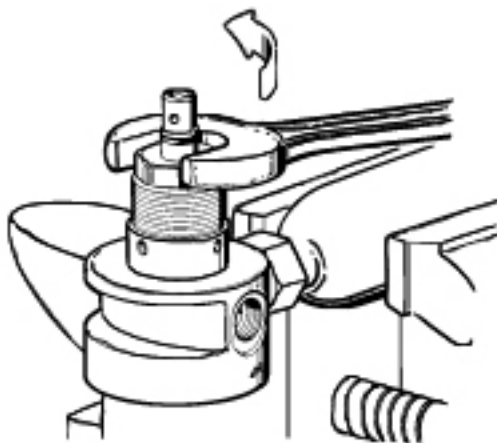

Figure 10 - Removal of the valve body
18. Secure the vise mounting tool in the vise once again, so that the high pressure valve body (28) faces straight up.
19. Apply a 3/4" open-end wrench over the flat hex surface of the valve body, just above the threaded portion of the first stage body. Slowly turn the wrench counterclockwise to loosen and remove the valve body from the first stage body, being careful to prevent the sudden ejection of internal parts beneath the valve body which are under spring pressure (see Figure 10).